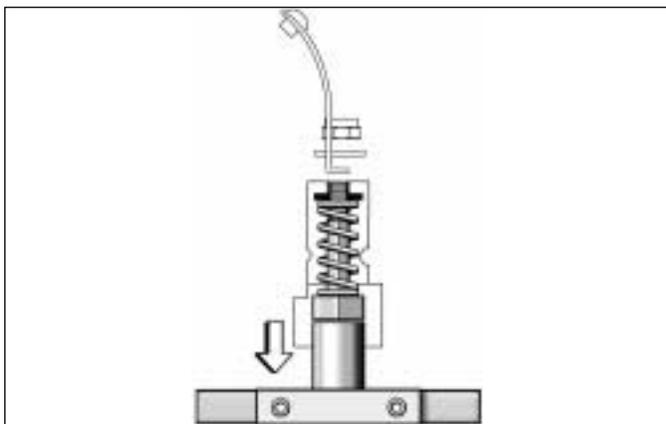

Figure 19
1.3.22 Place the poppet spring(10) over the stem of the poppet(11), and insert the stem of the poppet into the open end of the housing. Hold these parts together, and place the open end of the housing directly over the poppet assembly post of the Air Source Multi-Tool (P/N 42315). (See Fig. 19.)